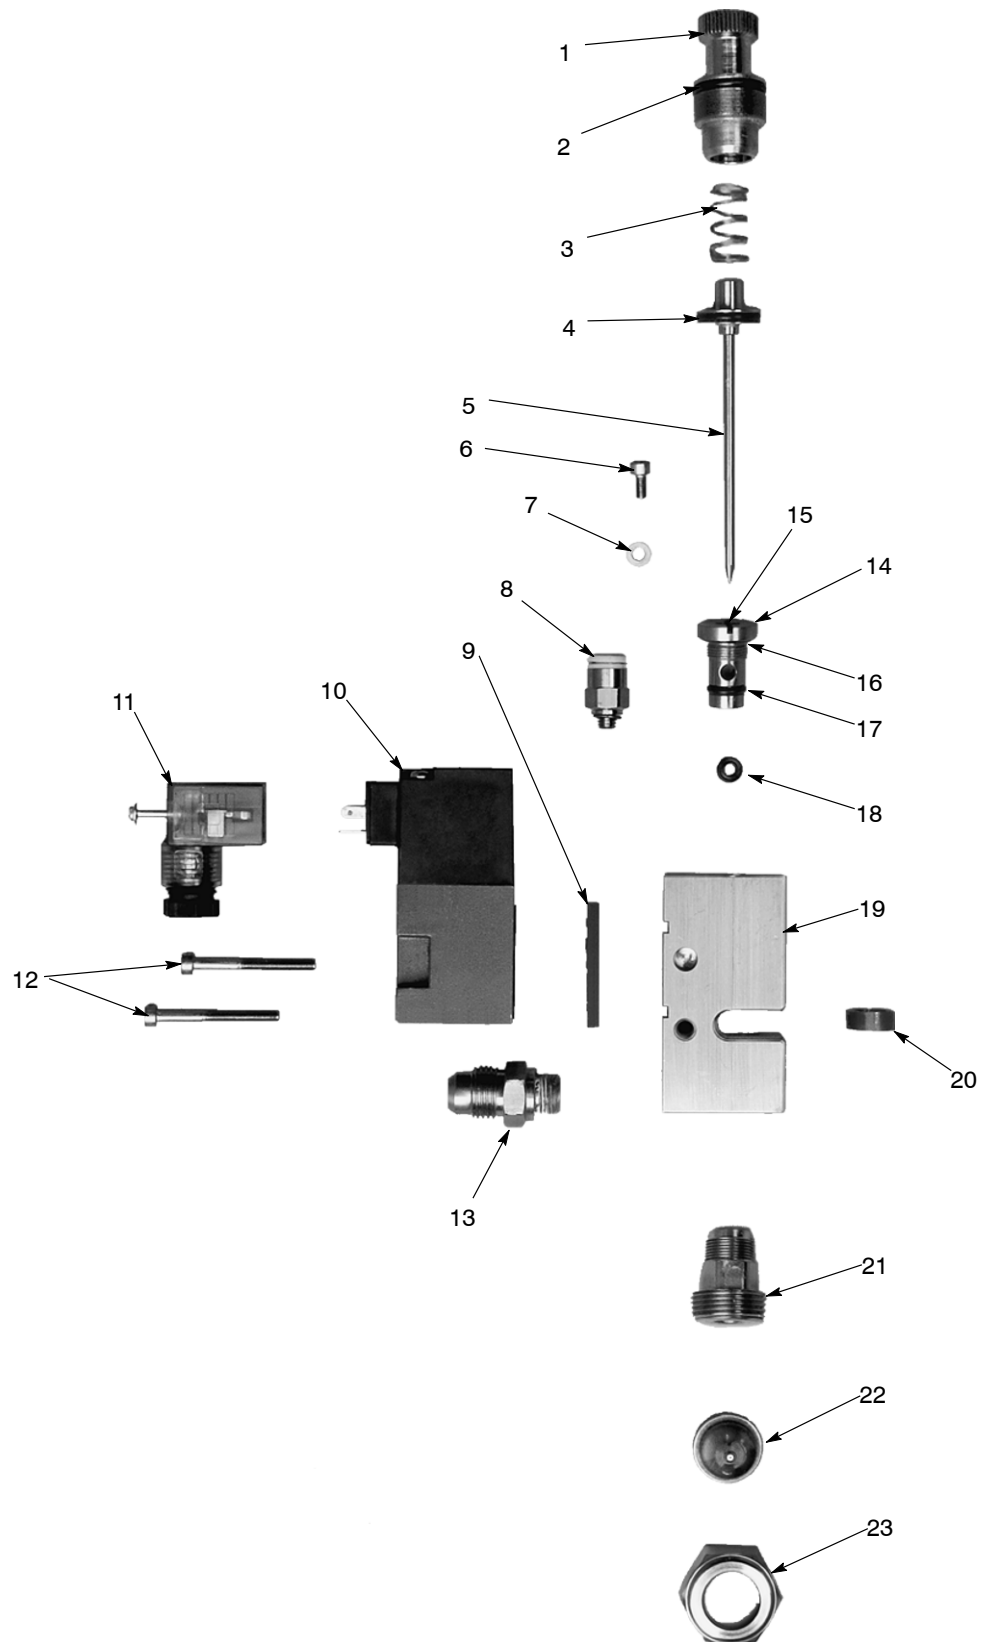

Figure 4 Gun Parts
See Figure 4.
See Figure 4. All nozzle and needle kits contain the nozzle (22), needle (5), O-ring (4), and quad ring (18). The nozzle, needle, and quad ring are a matched set. If you replace one, you must replace all three.